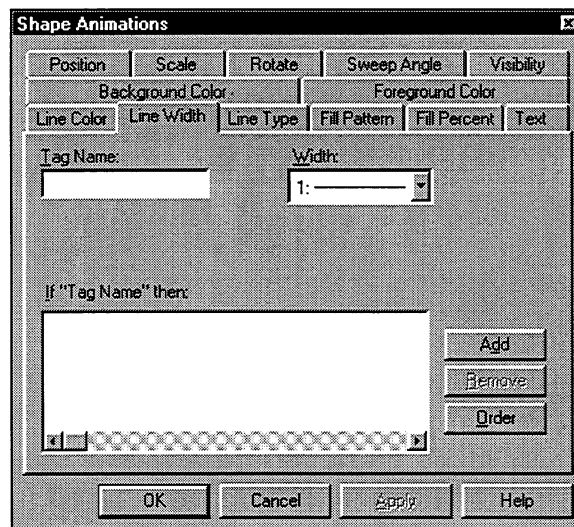

Figure 7-2. Line Width Animation Page
3. Choose the Line Width tab to access the Line Width animation page, as shown in Figure 7-2.